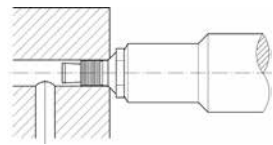

Fig. 2
- After inserting the plug into the hole (ensuring the tool is flush to the work surface) activate the tool to expand the plug. The mandrel will break apart when the proper tension has been reached (Fig. 2 and 3).